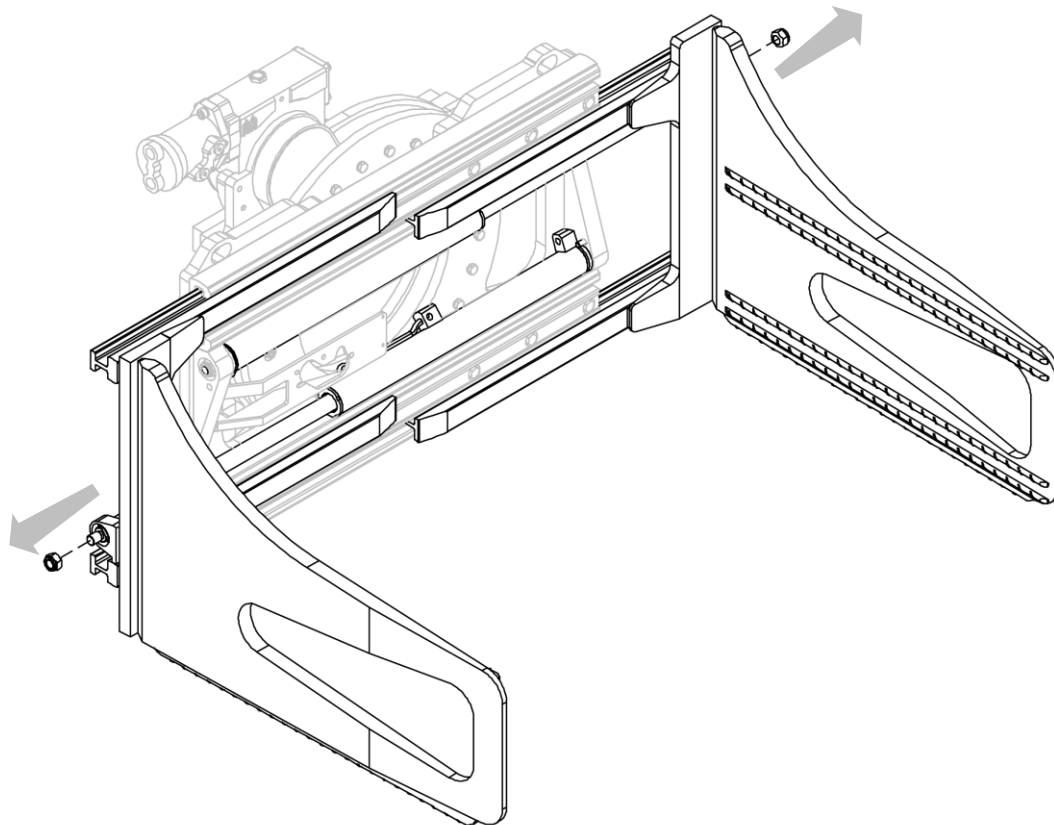

Figure 28
3. Remove the nuts fastening the cylinders to the forks (see *Figure 28*).